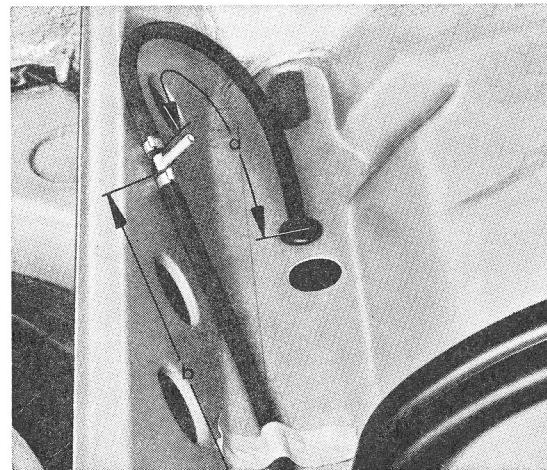
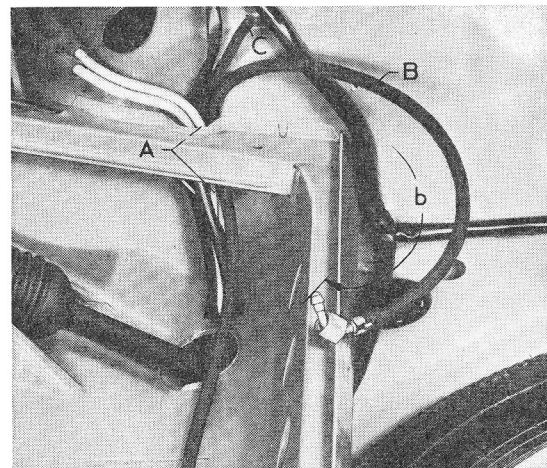

Figure 10
Figure 11
- 11 – Install T piece in the fuel hose 24 cm from the hole (see Figure 10) and secure with clips.
- 12 – Pass fuel hose 5×2.5 through hole A (see Figure 11) and secure it on T piece with clips (Figure 10).